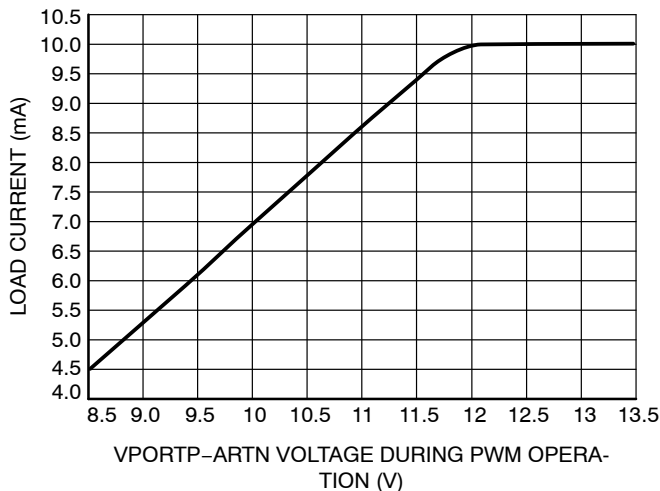

Figure 6. (Ivddl\_load)max with Auxiliary Supply Operation
8. See Figures 6 and 7 for specifications on the load current at lower or higher VPORTP-ARTN voltages. In case the application requires more current capability on VDDL and VDDH, it is recommended to externally supply the VDDH pin with a bias winding from the transformer or to add a diode between VAUX(+) and VDDH pin (verify the VAUX voltage does not exceed the VDDH voltage range).